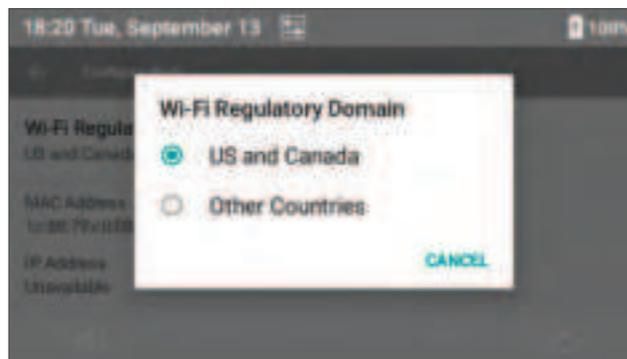

Figure 28: Wi-Fi Regulatory Domain
- 4 In the dialog box (Figure 28), select the appropriate option: